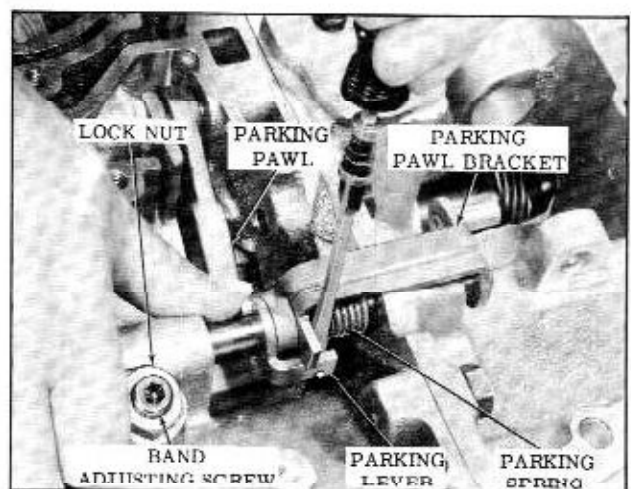

Fig. 3-31 Parking Pawl Spring
17. Unhook parking pawl spring from parking lever. (Fig. 3-31)
18. Loosen band adjusting screw lock nut, and remove screw and nut. (Fig. 3-31)